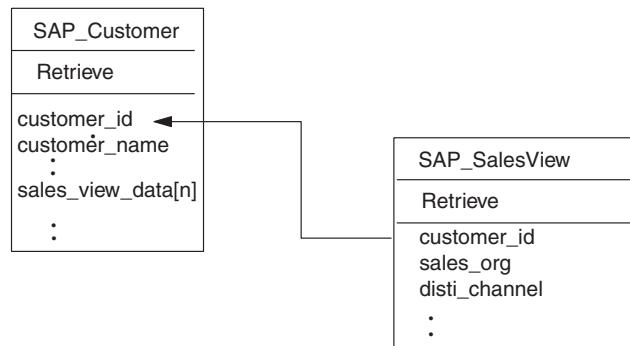

Figure 62. Example customer and sales view relationship
- In a multiple-cardinality relationship, the foreign key is determined by the primary key in the child referencing the **primary key** attribute in the parent. Each child has at least one simple attribute that contains the parent's primary key as a foreign key. The child has as many foreign-key attributes as the parent has primary-key attributes. Figure 62 on page 166 provides an example.
Figure 62 provides an example of a different WebSphere business object developed to process customer objects in SAP. This example SAP\_Customer has a multiple-cardinality relationship to the example sales view object that it contains (the sales\_view\_data[n] attribute has cardinality n). The primary key attribute (customer\_id) in the child business object references the primary key (customer\_id) in the parent business object.